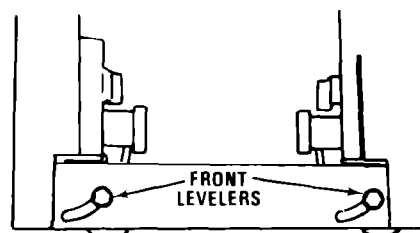

FIGURE 15
14. Loosen the screws to the front levelers (do not remove screws). Pivot the levelers to the floor and retighten screws. See Figure 15.